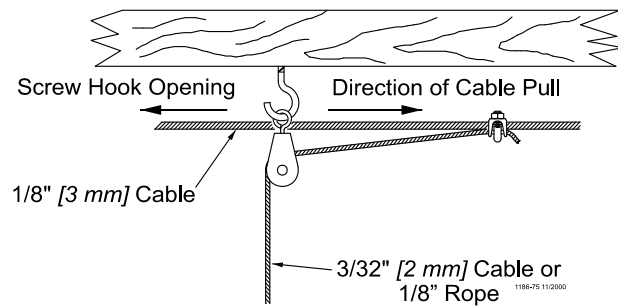

Figure 8. Screw Hook Installation
Screw hook installations: Install screw hooks along the line at 8' [2.4 m] or 10' [3 m] intervals. Screw the threads all the way in to prevent bending. The opening of the hooks must point away from the direction the cable pulls. See **Figure 8**
3. After the screw hooks or ceiling hooks have been secured to the trusses install the pulley assemblies as shown in **Figures 8 & 9**. Make sure the screw hooks or ceiling hooks are pointing in the proper direction (opposite the winch).